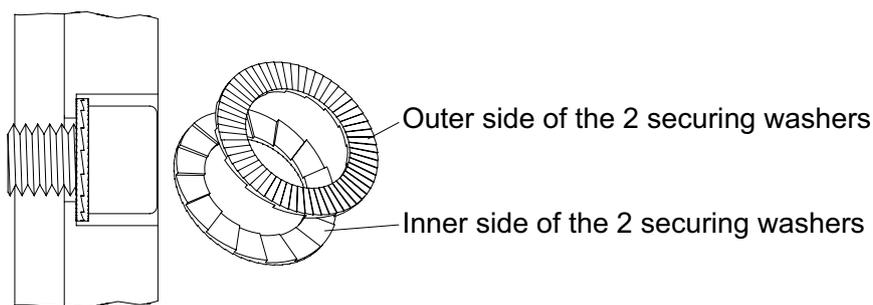

Figure 5 Correct fitting position of the Nord-Lock® securing washers
ATTENTION Ensure that the fitting position and tightening torque of the Nord-Lock® securing washers is correct as in Figure 5 and table for tightening torque!
- Lightly grease the propeller boss and shaft end. Check key (7/19) for wear or damage and replace if necessary.
- Press on the securing rings (7/106) in the correct installation location (*see Figure 5*).
- Lightly grease the propeller boss and shaft end. Check key (8/9) for wear or damage and replace if necessary.
- Press on the securing rings (8/2) in the correct installation location (see Figure 5).